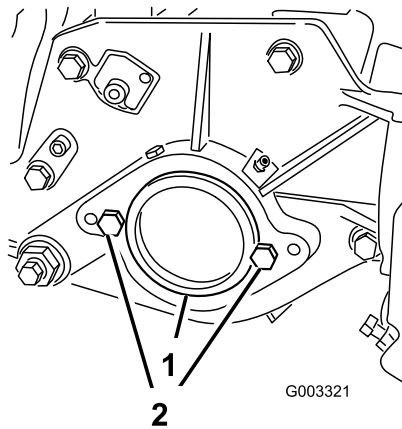

Figure 7
2. On right end of cutting unit, remove the plastic plug from the bearing housing (Figure 7).
3. Remove the 2 cap screws from the right side plate (Figure 7).
1. Plastic plug 2. Cap screw (2)
5. Loosely install the 2 reel motor mounting cap screws to the left side plate of the cutting unit (Figure 7).